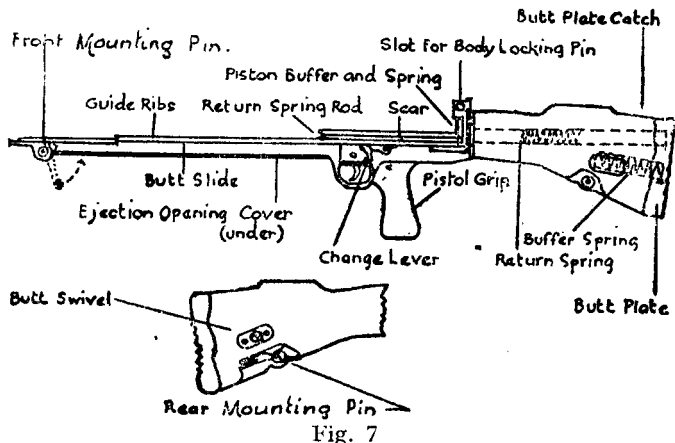

Fig. 7
- v. Name the principal parts of the butt group (*see Fig. 7*).